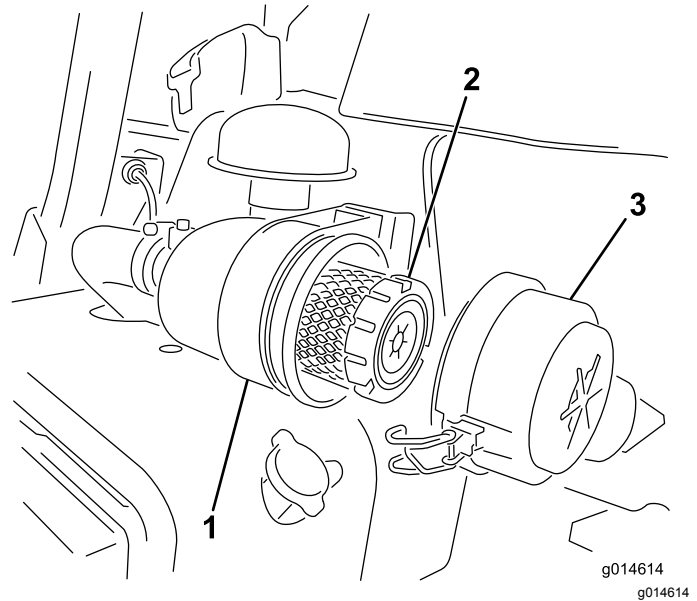

Figure 23
1. Release the latches securing the air-cleaner cover to the air-cleaner body (Figure 23).
7. Secure the latches (Figure 23).